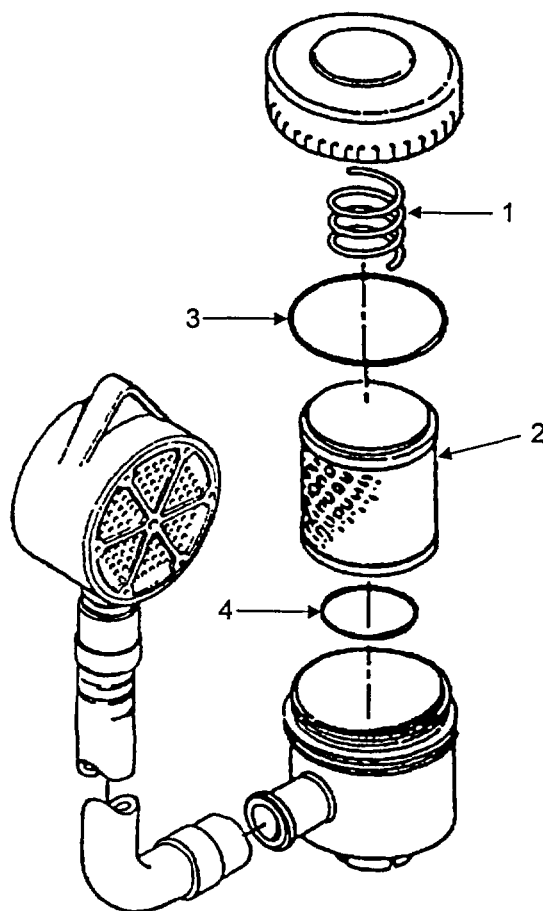

FIGURE 3-11. COMPRESSOR INTAKE AIR CLEANER FILTER
A dry micronic filter is used to filter the intake air (Figure 3-11).
a. Remove cover (1) and filter element (2) (Figure 3-11, Item 2). Note position of element in housing.